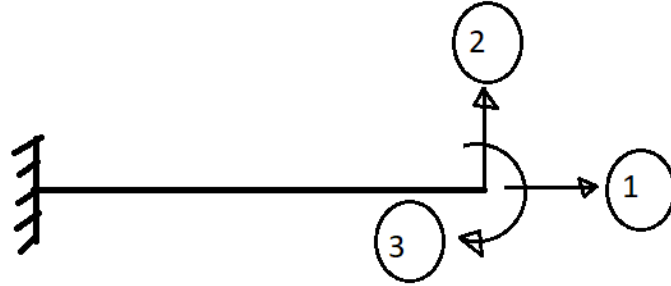

Fig.9
9. Develop the stiffness matrix for the given co-ordinate. The length of the cantilever beam as shown in Fig.9 is L , area is A , modulus of elasticity is E and moment of inertia is I .